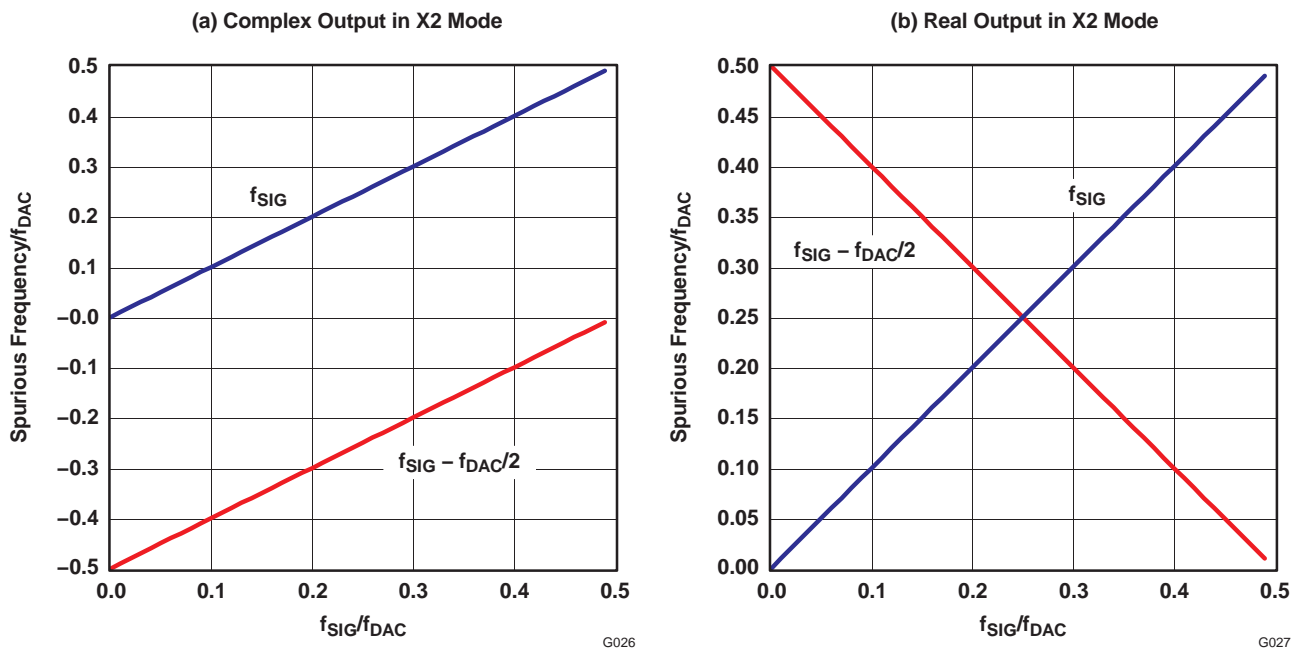
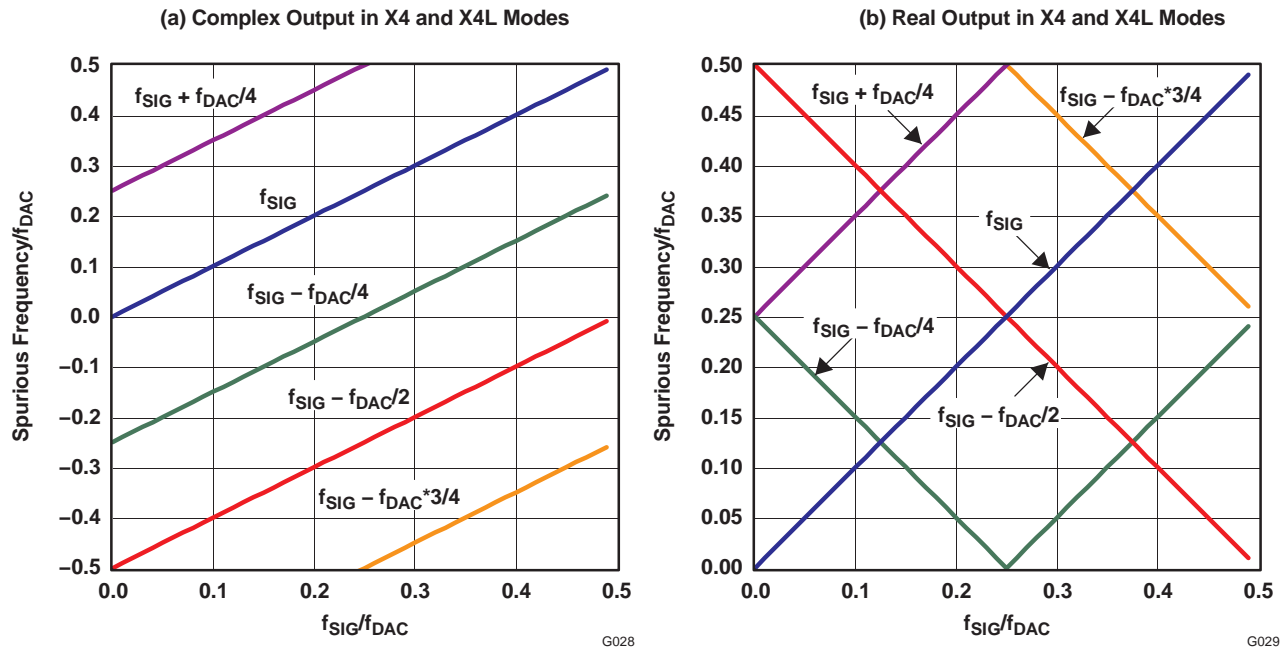
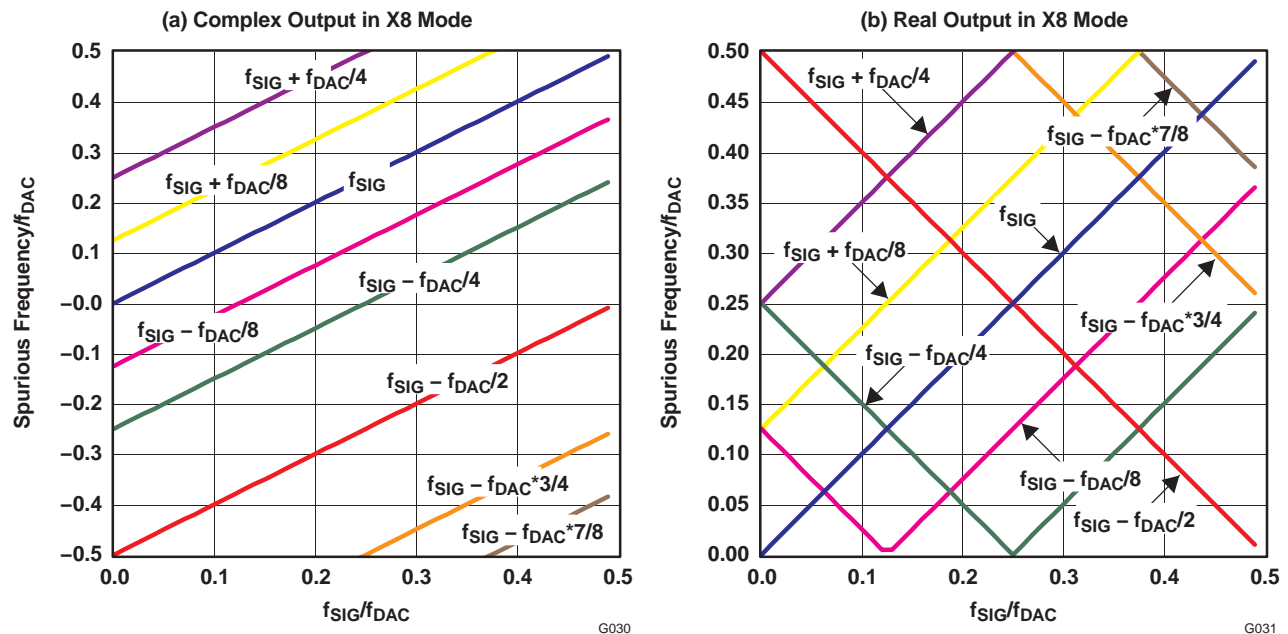
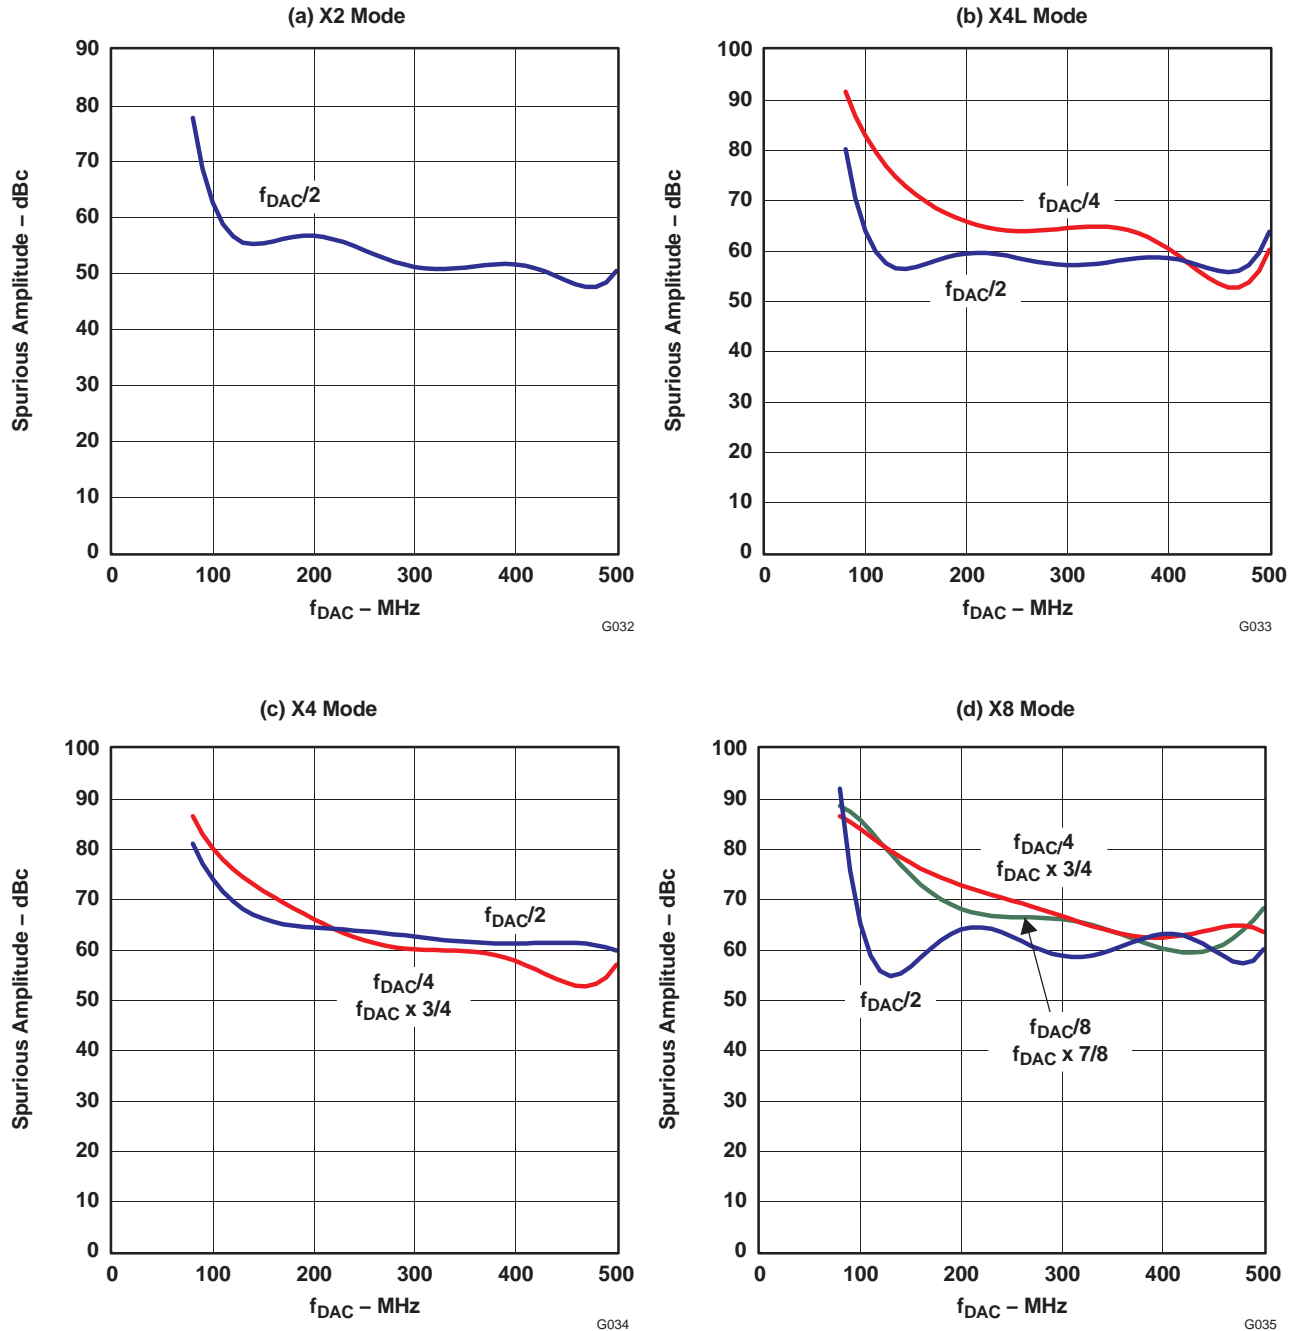

Figure 70. Frequency of Clock Mixing Spurious Images in X2 Mode
Figure 71. Frequency of Clock Mixing Spurious Images in X4 and X4L Modes
Figure 72. Frequency of Clock Mixing Spurious Images in X8 Mode
Figure 73. Clock-Related Spurious Signal Amplitude With PLL Off for  $f_{SIG} = 11 \times f_{DAC} / 32$
Figure 70 shows the location of spurious signals for X2 mode as a function of  $f_{SIG}/f_{DAC}$ . For complex outputs, the spurious frequencies cover a range of  $-0.5 \times f_{DAC}$  to  $0.5 \times f_{DAC}$ , with the negative complex frequency indicating that the spurious signal falls in the opposite sideband from the wanted signal at the output of the AQM. For the real output, the phase information for the spurious signal is lost, and therefore what was a negative frequency for the complex output is a positive frequency for a real output.
Figure 71 shows the location of spurious signals for X4 and X4L mode as a function of  $f_{SIG}/f_{DAC}$ . The addition of the  $f_{DAC}/4$  clock frequency for the first interpolation filter creates three new spurious signals. For a complex output, the nearest spurious signals are  $f_{DAC}/4$  offset from  $f_{SIG}$ . For a real output, the signal due to  $f_{SIG} - f_{DAC}/4$  and  $f_{SIG} - f_{DAC} \times 3/4$  falls in band as  $f_{SIG}$  approaches  $f_{DAC}/8$  and  $f_{DAC} \times 3/8$ . This creates optimum real output frequencies  $f_{SIG} = f_{DAC} \times N/16$  ( $N = 1, 3, 5,$  and  $7$ ), where the minimum spurious product offset from  $f_{SIG}$  is  $f_{DAC}/8$ .
Figure 72 shows the location of spurious signals for X8 mode as a function of  $f_{SIG}/f_{DAC}$ . The addition of the  $f_{DAC}/8$  clock frequency for the first interpolation filter creates four new spurious signals. For a complex output, the nearest spurious signals are  $f_{DAC}/8$  offset from  $f_{SIG}$ . For a real output, the optimum real output frequencies  $f_{SIG} = f_{DAC} \times N/16$  ( $N = 3$  and  $5$ ), where the minimum spurious product offset from  $f_{SIG}$  is  $f_{DAC}/8$ .
Figure 73 and Figure 74 show the typical worst-case spurious signal amplitudes vs  $f_{DAC}$  for a signal frequency  $f_{SIG} = 11 \times f_{DAC}/32$  in each mode for PLL on (PLL clock mode) and PLL off (external and dual-clock modes). Each spurious signal ( $f_{DAC}/2$ ,  $f_{DAC}/4$  and  $f_{DAC}/8$ ) has its own curve. The spurious signal amplitudes can then be adjusted for the exact signal frequency  $f_{SIG}$  by applying the amplitude adjustment factor shown in Figure 75. The amplitude adjustment factor is the same for each spurious signal ( $f_{DAC}/2$ ,  $f_{DAC}/4$ , and  $f_{DAC}/8$ ) and is normalized for  $f_{SIG} = 11 \times f_{DAC}/32$ .
1. Find the spurious signal frequencies for the appropriate mode from Figure 70, Figure 71, or Figure 72.
2. Find the amplitude for each spurious frequency for the appropriate mode from Figure 73 or Figure 74.
First, the location of the spurious signals is found for the X4 complex output in Figure 71\(a\). Three spurious signals are present in the range  $-0.5 \times f_{DAC}$  to  $0.5 \times f_{DAC}$ : two from  $f_{DAC}/4$  (35 MHz and  $-215$  MHz) and one from  $f_{DAC}/2$  ( $-90$  MHz). Consulting Figure 73\(c\), the raw amplitudes for  $f_{DAC}/2$  and  $f_{DAC}/4$  are 60 and 58 dBc, respectively. From Figure 75, the amplitude adjustment factor for  $f_{SIG} = 0.32 \times f_{DAC}$  is estimated at  $\sim 1$  dB, and so the  $f_{DAC}/2$  and  $f_{DAC}/4$  are adjusted to 61 and 59 dBc.
First, the location of the spurious signal is found for the X2 real output in Figure 70\(b\). One spurious signal is present in the range  $0$  to  $0.5 \times f_{\text{DAC}}$  at  $0.325 \times f_{\text{DAC}}$  (see Table 17). Consulting Figure 74\(a\), the raw amplitude for  $f_{\text{DAC}}/2$  is 47 dBc. From Figure 75, the amplitude adjustment factor for  $f_{\text{SIG}} = 0.175 \times f_{\text{DAC}}$  is estimated at  $\sim 6$  dB, and so the  $f_{\text{DAC}}/2$  spurious signal is adjusted to 53 dBc.